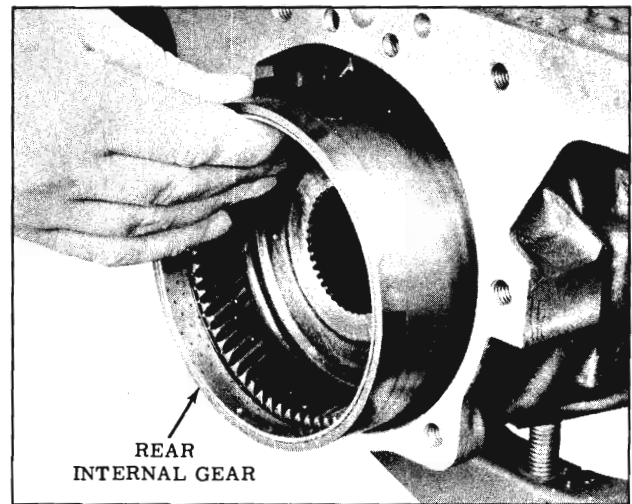

Fig. 3-294 Rear Internal Gear
12. Install the rear internal gear into the rear of transmission. (Fig. 3-294)